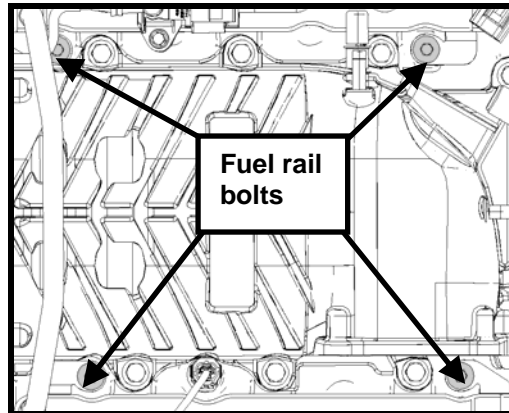

Fig. 17
**STEP 2:** Re-install the injectors and fuel rail onto the intake manifold (See Fig. 17). Torque fuel rail bolts to 10 Nm (88 lb in)